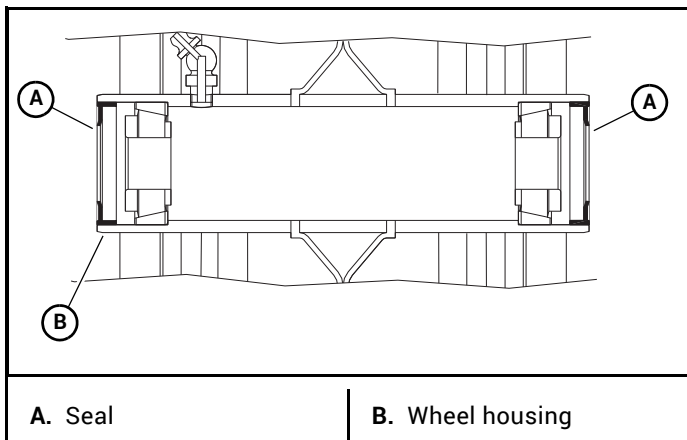

Figure 4-35
3. Insert the new tapered roller bearings into the outer bearing race. Figure 4-35
4. Insert the new seals into the wheel housing. Make sure that the flat side of the seal is flush with the outside edge of the wheel housing. Figure 4-35